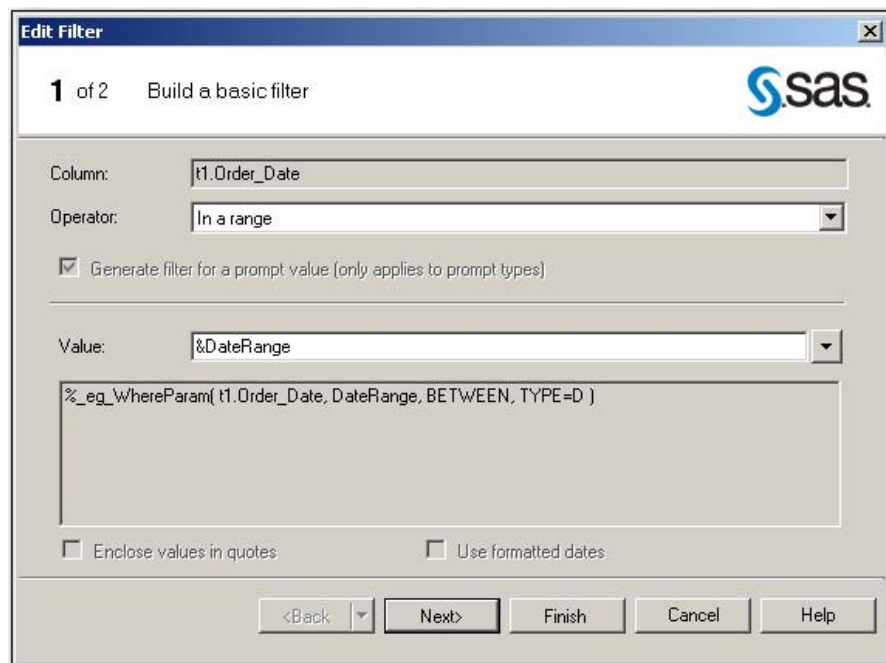

Figure 8. Edit Filter Window (In a Range)
*The **In a Range** operator must be used with range prompts. It uses a special macro call that is generated by SAS Enterprise Guide and is seen in the filter window (in Figure 8). This %_eg_WhereParam macro calls a hidden program during the execution of the query code. It works by determining if a column's value is in the range specified at run time. The **Between** operator is used behind the scenes here but can't be specified with the range prompt name since it requires two values. However, the **Between** operator can be used with the macro variables that are created behind the scenes. We'll see an example of using these macro variables soon.*